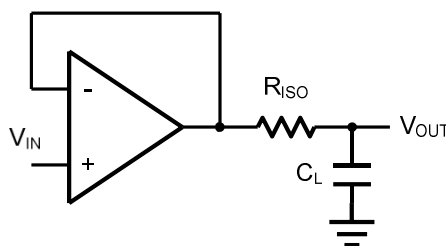
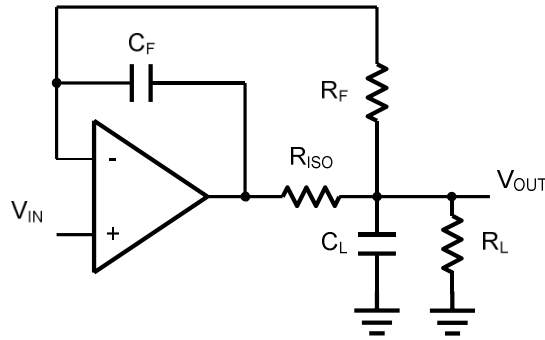

Figure 2. Indirectly Driving a Capacities Load Using Isolation Resistor
Figure 3. Indirectly Driving a Capacities Load with DC Accuracy
The HXV855x family is optimized for bandwidth and speed, not for driving capacitive loads. Output capacitance will create a pole in the amplifier's feedback path, leading to excessive peaking and potential oscillation. If dealing with load capacitance is a requirement of the application, the two strategies to consider are (1) using a small resistor in series with the amplifier's output and the load capacitance and (2) reducing the bandwidth of the amplifier's feedback loop by increasing the overall noise gain. Figure 2. shows a unity gain follower using the series resistor strategy. The resistor isolates the output from the capacitance and, more importantly, creates a zero in the feedback path that compensates for the pole created by the output capacitance.
The circuit in Figure 3 is an improvement to the one in Figure 2. RF provides the DC accuracy by feed-forward the VIN to RL. CF and RISO serve to counteract the loss of phase margin by feeding the high frequency component of the output signal back to the amplifier's inverting input, thereby preserving the phase margin in the overall feedback loop.